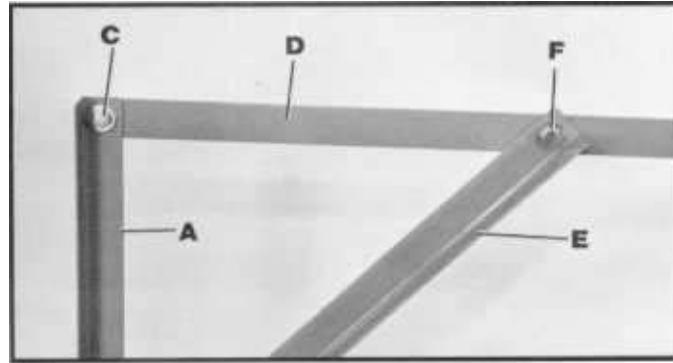

Fig. 20
2. Assemble the remaining four foot-long angle section (with five holes) (D) Fig. 20, horizontally to the top of vertical angle section (A) which was assembled in STEP 1. Fasten with a 1-1/4 inch-long screw (C), two flat washers, lockwasher and hex nut as shown.
3. Assemble slotted hole end of 34 inch-long angle support bar (E) Fig. 20, to horizontal angle section (D) and fasten with 1-1/4 inch-long hex head screw (F), two flat washers, lockwasher and hex nut as shown. **NOTE:** End of support bar (E), with 45 degree angle, should be at the bottom.